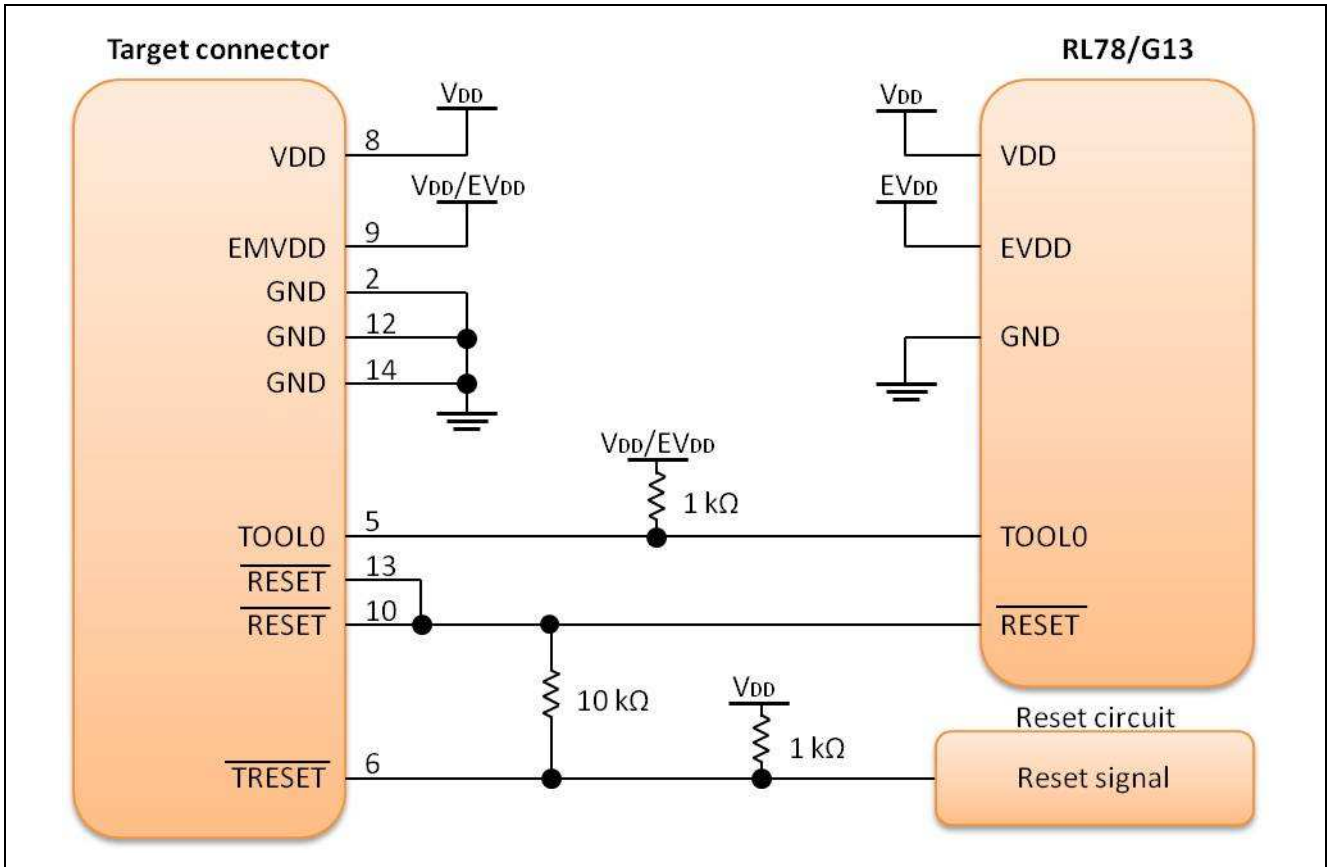

Figure 3 Connection example of E1 and RL78/G13
- Figure 3 shows the connection example circuit. The V_{DD}, GND, TOOL0, and RESET# pins are used for communication with the host machine via the E1 on-chip debugging emulator. For more details, please read CHAPTER 26 ON-CHIP DEBUG FUNCTION in the “User’s Manual: Hardware” of RL78/G13.